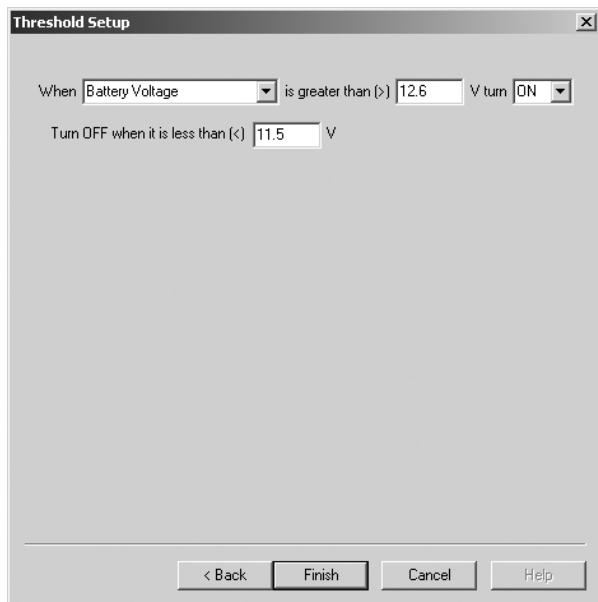

Figure 5. Specify Threshold Parameters
- a. Select a Control Variable. In Figure 5, *Battery Voltage* has been selected as the Control Variable.